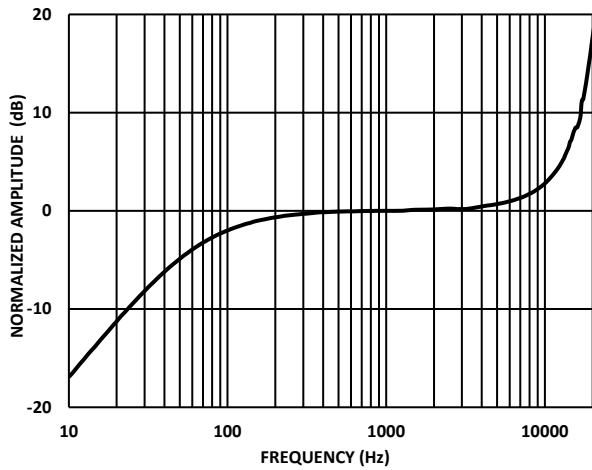
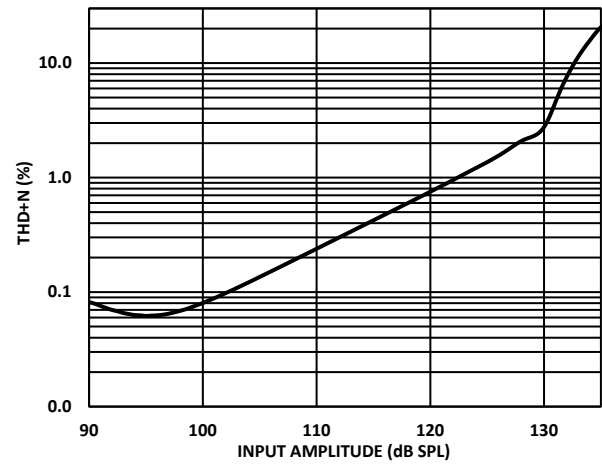

Figure 3. Typical Frequency Response (Measured)
Figure 4. THD + N vs. Input Level
**Note 1:** See Figure 3 and Figure 4.